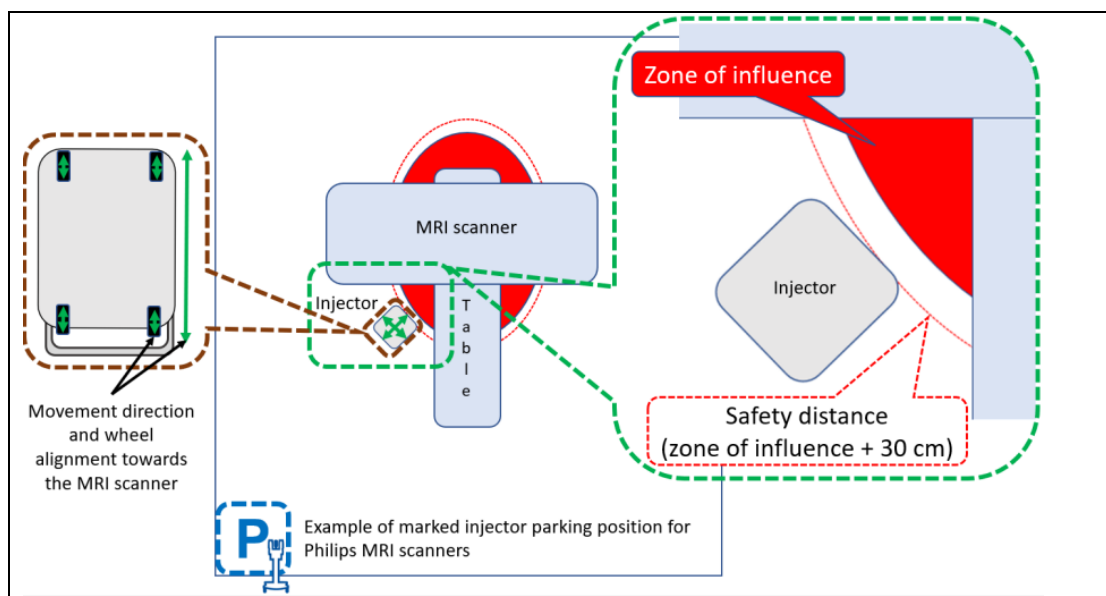

Figure 13. Safety line & park position
- ▶ When the injector is not in use, always move it to the parking position designated by ulrich medical or by a person authorized by ulrich medical and secure it with at least 2 parking brakes (see Fig. 13).